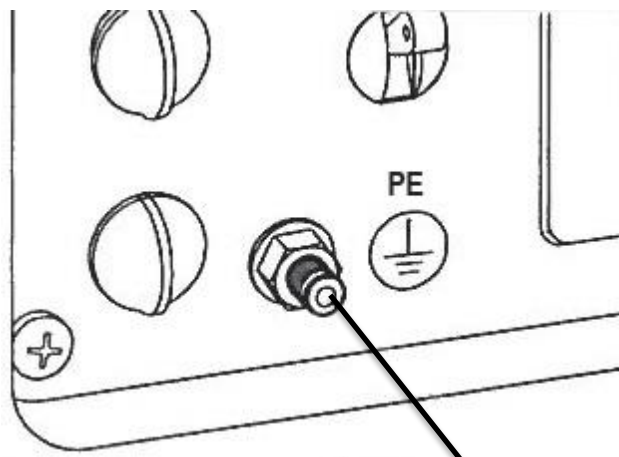

Figure-11 Grounding the Generator
- * This allows the generator to be used as a portable without grounding the frame of the generator. **See Figure-11.**